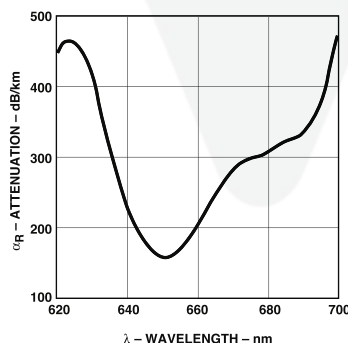

Figure 1. Typical POF attenuation vs. wavelength.
7. Note that αR rises at the rate of about 0.0067 dB/°C, where the thermal rise refers to the LED temperature changes above 25°C. Please refer to Figure 1 which shows the typical plastic optical fiber attenuation versus wavelength at 25°C.
**Contact the professionals at Fiber Optic Center for a quote or to get more details.**[focenter.com](http://focenter.com) • 508-992-6464 | (800) 473-4237 • [sales@focenter.com](mailto:sales@focenter.com)